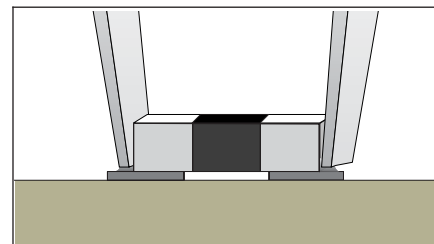

Figure 3 Melt Joints
7. Confirm complete solder melt of both joints and lift component from PCB. (See Figures 3 & 4.)